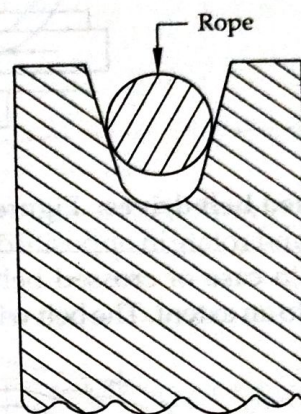

Fig. 4
3. **Circular belt or rope:** The belt having circular cross-section is known as circular belt or rope shown in Fig. 4. In factories, it is used for power transmission, when the distance between the two pulleys is more than 8 meters.